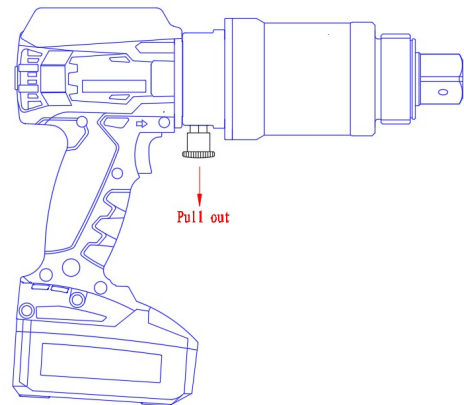

Figure 4
1. For operator safety, the high-power torque wrench's handle has a safety lock pin. Pull out the pin to rotate the handle freely through 360° (Figure 4). Once the handle is at the optimal angle, push the pin back in to lock it in place.